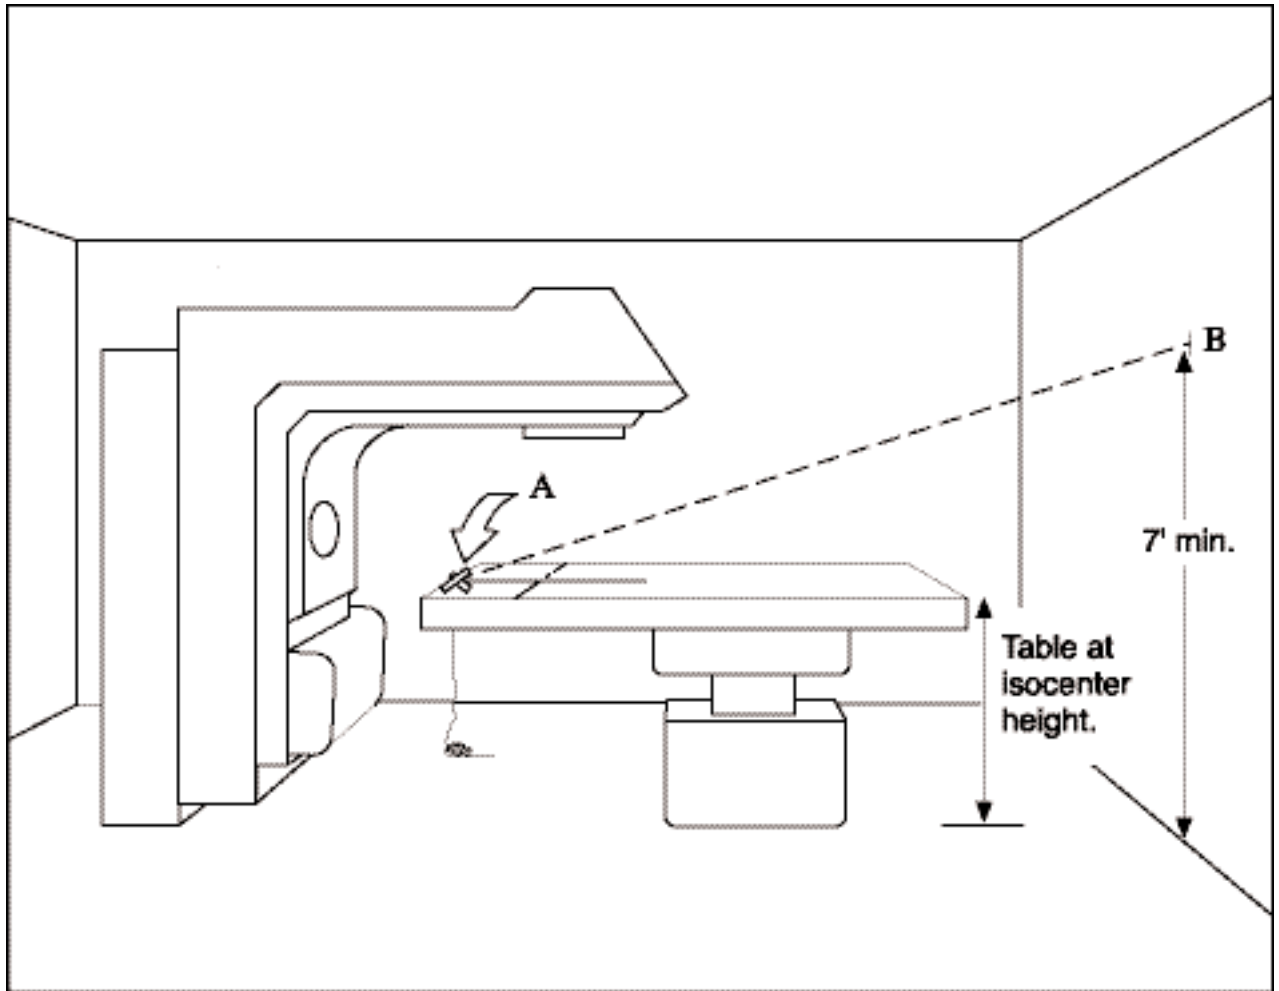

Figure 16
2. Use the crosshair from the ceiling laser as a reference and tape a plumb bob string to the center of the table so that the string shadow aligns with the crosshair. (Point A in *Figure 16*)
4. The point at which the string hits the wall indicates the center of the vertical laser exit reference point. (Point B in *Figure 16*)